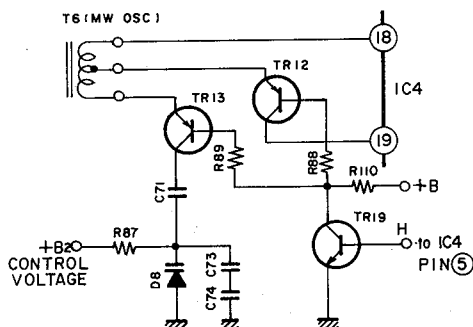

Fig. 6-7 MW OSC
- 1) For MW, the pin ⑤ of IC4 is at “H” level, and so TR19 is ON, TR16 OFF, TR12 and TR13 ON, TR20 is OFF and so TR14 and T15 are OFF. This means that T6, C71, C73, C74 and D8 are connected through TR19; TR12 and TR13, to create the MW OSC state (refer to Fig. 6-7).